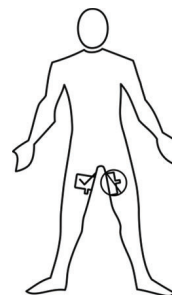

Figure 2: Application Orientation
- Ensure the longer edge of the pad is nearest to the RF application site and makes full contact with the skin. See Figure 2.
7. During the electrode application, massage the entire surface of the dispersive electrode to ensure secure contact with the patient skin (Figure 2). After application, carefully inspect the electrode to ensure that it is fully adhered.